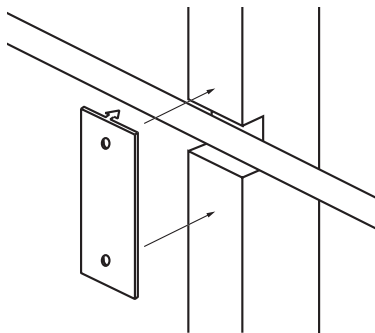

Figure 9. Installing a nail plate to protect wiring in a notched stud.
- *Always drill the holes in the center of the stud. If you have to notch the stud or drill the hole closer than 1 inch from the edge of the stud, protect the wire with a nail plate, as shown in **Figure 9**.*